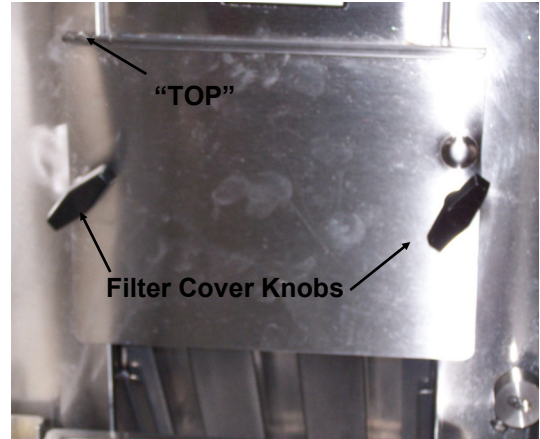

fig. 5
- Remove the filter cover plate from the back interior wall of the cooking chamber by removing the two black plastic knobs securing the cover plate (fig. 5).
- Re-install the filter cover plate and turn the filter cover knobs clockwise until hand tight. Verify that the word **TOP** on the filter cover plate is in the upper left-hand corner (fig. 5).